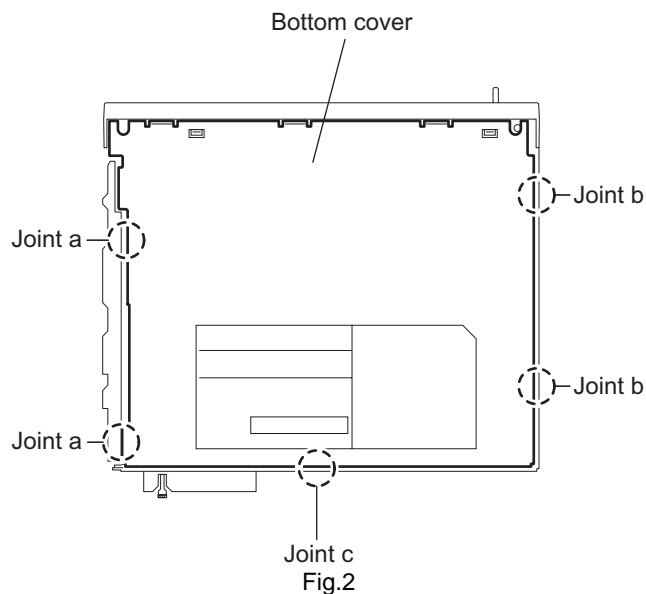

Fig.2
2.1.2 Removing the bottom cover (See Fig.2)